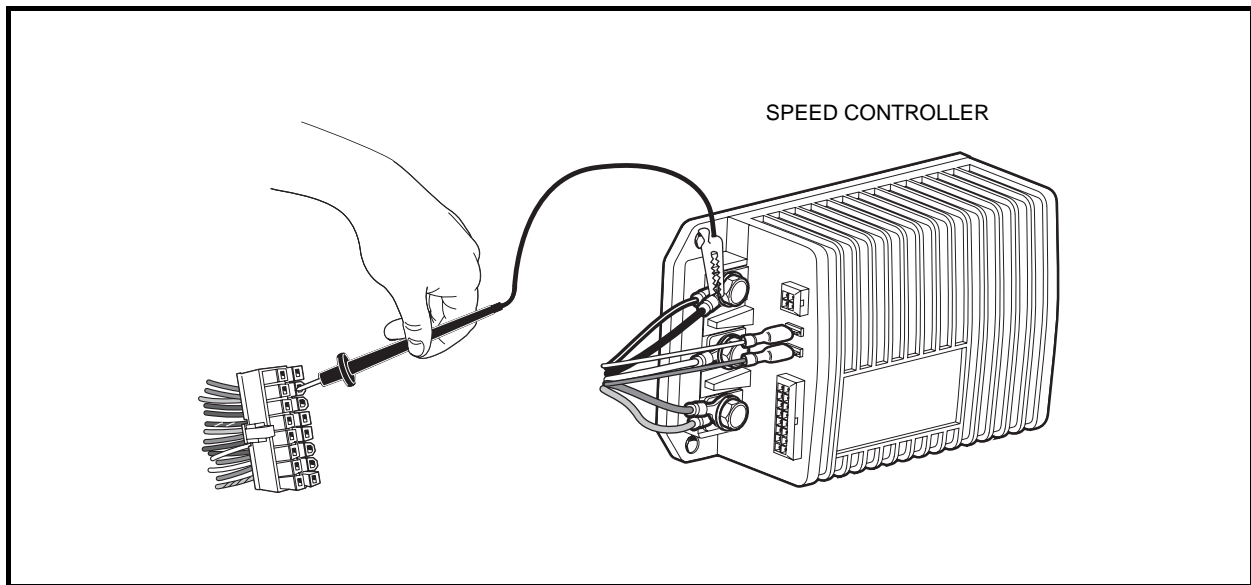

Figure 11-16 Pin 7 Test
4. Place a jumper wire with an alligator clip between the B– terminal of the speed controller (use alligator clip for this connection) and pin 7 (orange/white wire) of the 16-pin connector (**Figure 11-16, Page 11-30**). **See following CAUTION.**